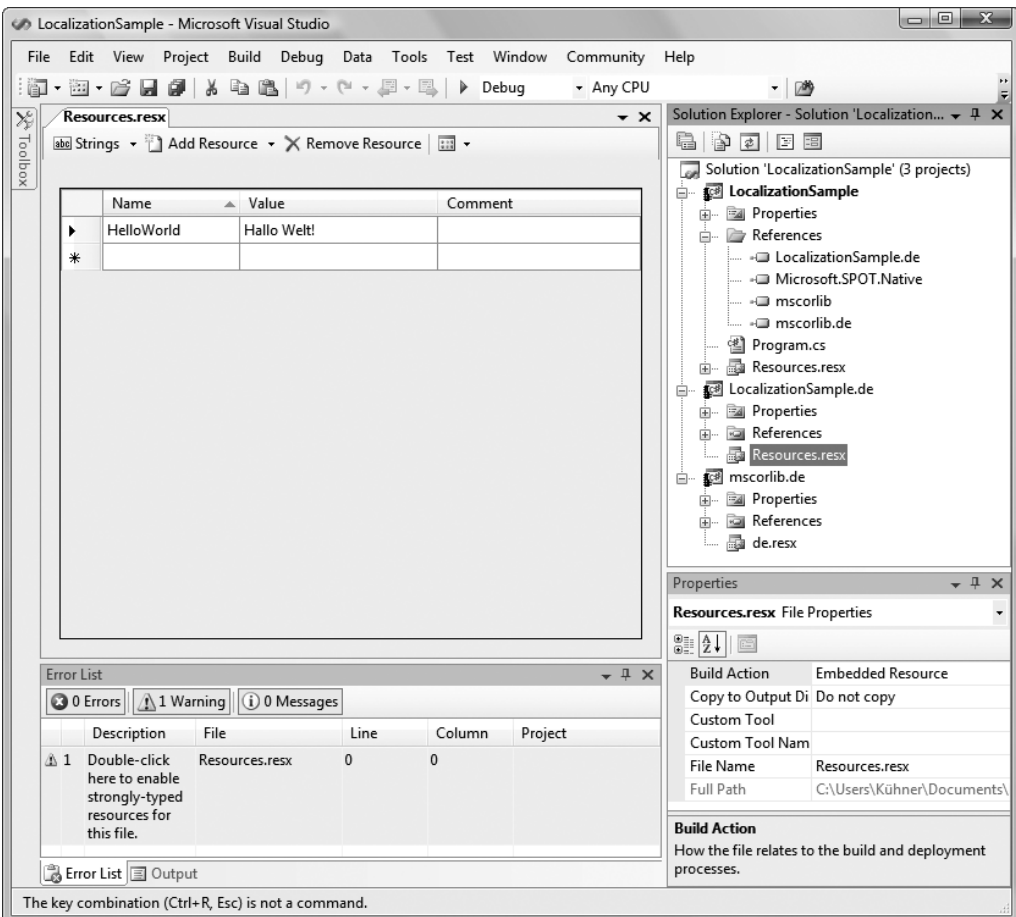

Figure 10-10. The LocalizationSample project
7. Finally, to be deployed, a satellite assembly must be referenced by the main application. If an application and satellite assembly are in the same solution, you can add a project reference; see Figure 10-10.